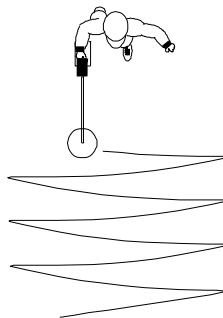
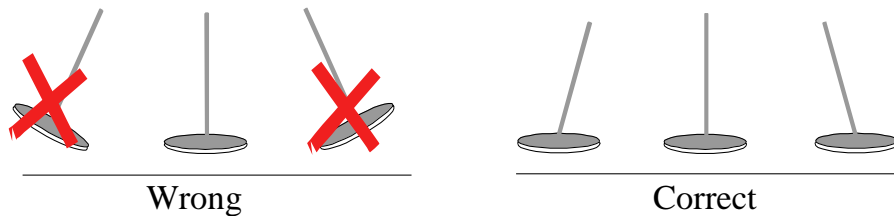

Fig.2
Fig.3
**NRG100** working in dynamic regime - searching metal objects is made by moving search coil toward ground surface – fig.2, fig.3